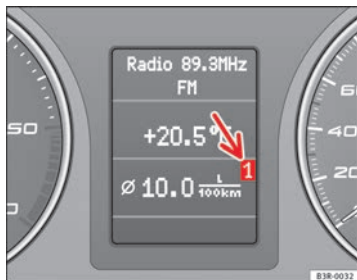

Fig. 59 Onboard computer: memory 1
The numbers in the display ⇒ fig. 59 indicate which of the two memories is currently in use. A 1 means that the display is showing the information in the single journey memory (onboard computer 1). A 2 means that the display is showing the information in the total journey memory (onboard computer 2).
- Press the reset button **(B)** repeatedly until the onboard computer (memory 1 or 2) ⇒ page 85, fig. 59 is displayed.